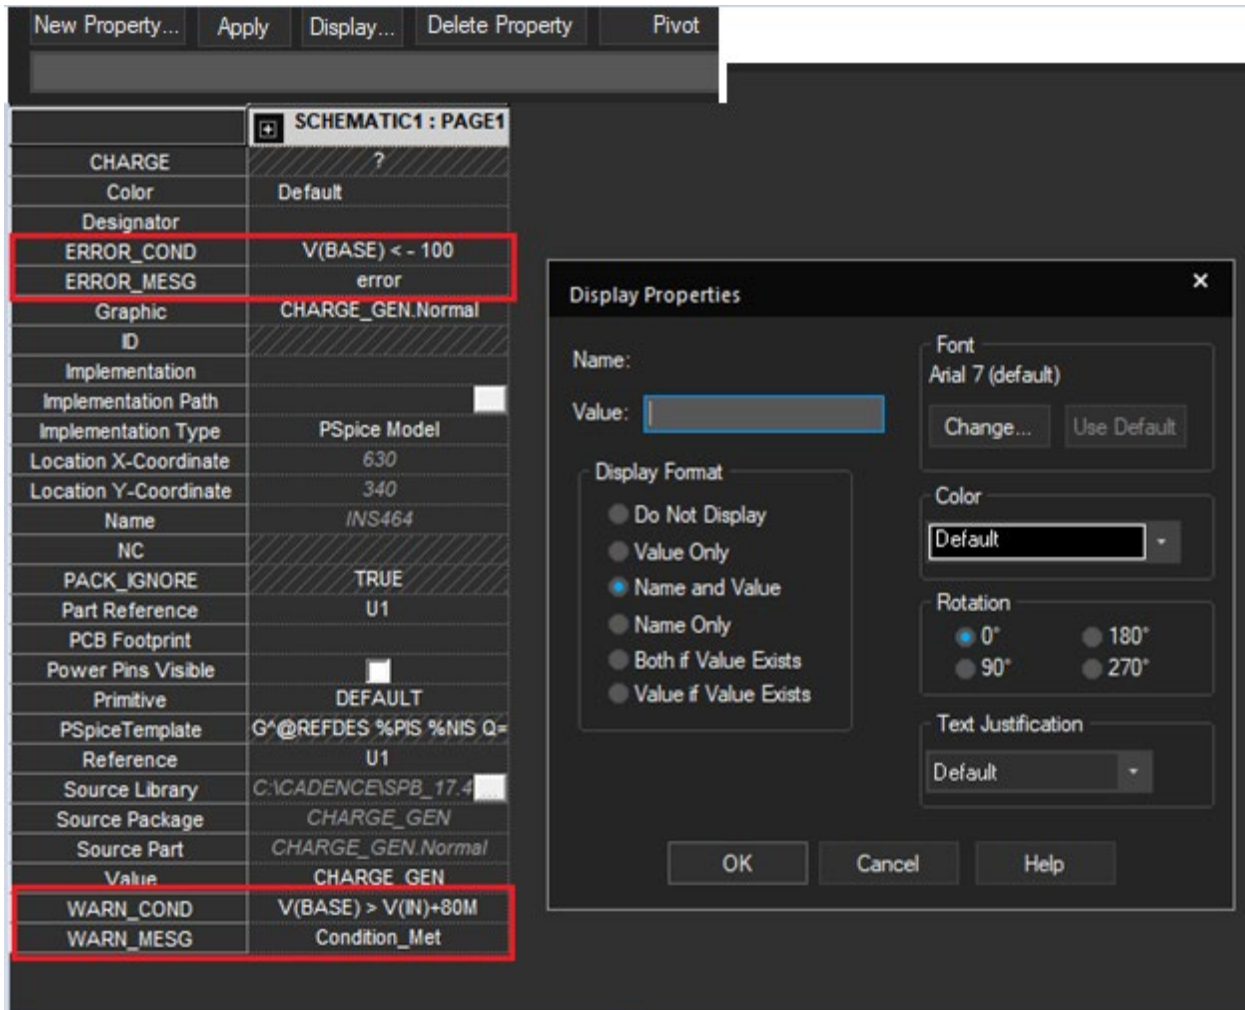

Figure 2-40: CURRENT_GEN Properties
62. Perform the following property edits using the Property Editor. When done, the two attributes for warning and error message should match Figure 2-40.
63. Set the Display Format of **WARN_COND** and **WARN_MESG** to **Name and Value**. Set all remaining visibilities to **Do Not Display**, as shown in Figure 2-40. The order of attributes is not important.